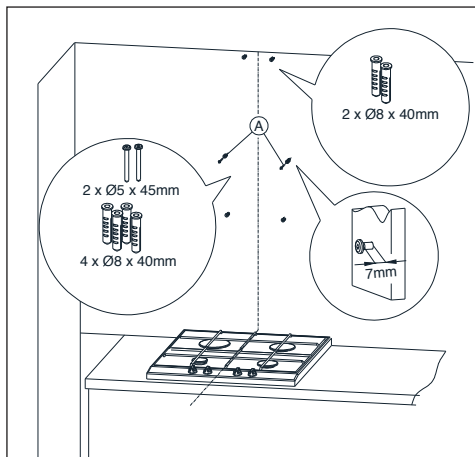

**Fig.10** Assembly dimensions
1. Define the axis of cooking range, and project it onto the wall, where the hood will be mounted. Sign all characteristic points of hood fastening. Make the openings with the drill. (Fig. 10)